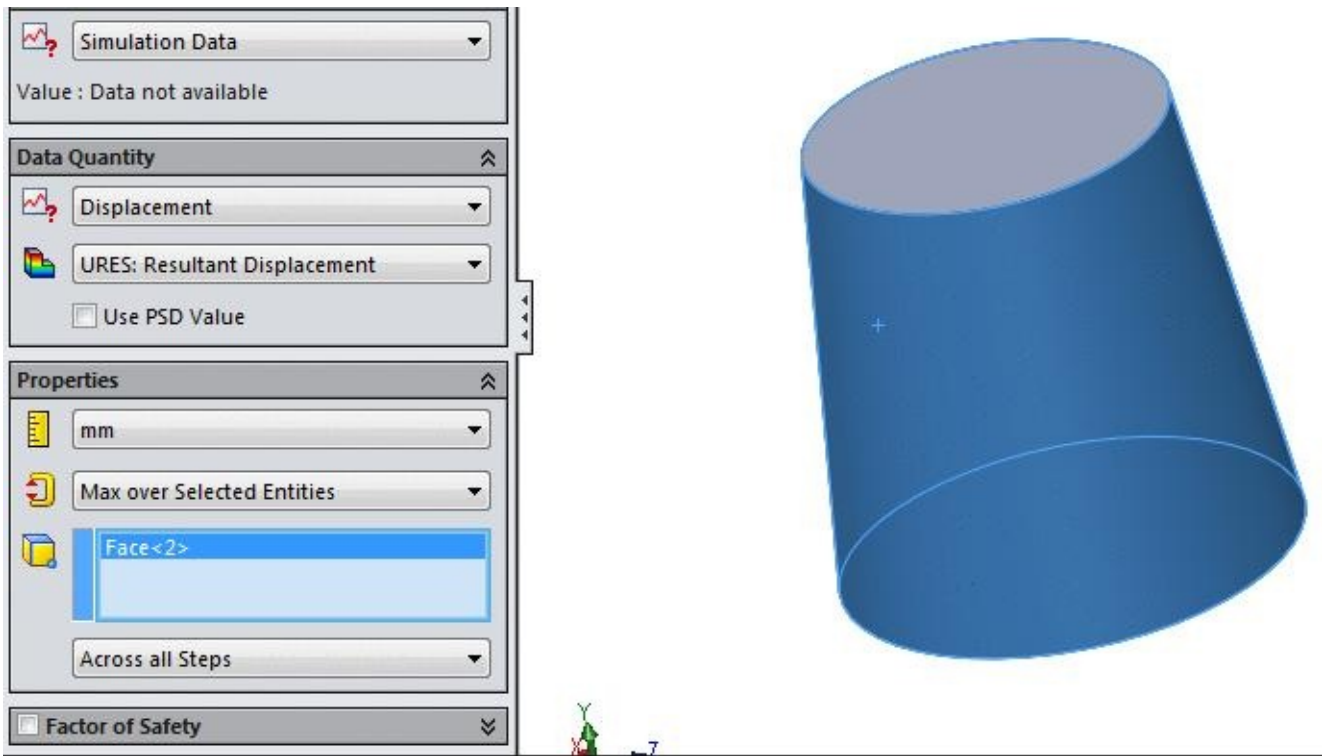

Figure-34. Face selected for deformation testing
2. Select the part/face/edge/vertex for which you want to check the deformation; refer to Figure-34 and click on the **OK** button from the **PropertyManager**. The page related to material failure will be displayed in the **Simulation Advisor**.